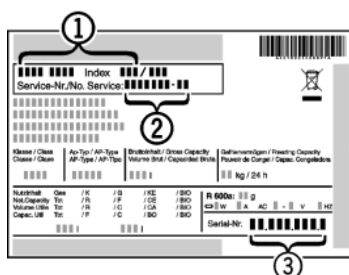

Fig. 12
- ▶ Read the appliance designation Fig. 12 (1), service No. Fig. 12 (2) and serial No. Fig. 12 (3) off the type plate located inside the appliance on the left-hand side.
- ▶ Notify the customer service, specifying the fault, appliance designation Fig. 12 (1), service No. Fig. 12 (2) and serial No. Fig. 12 (3).